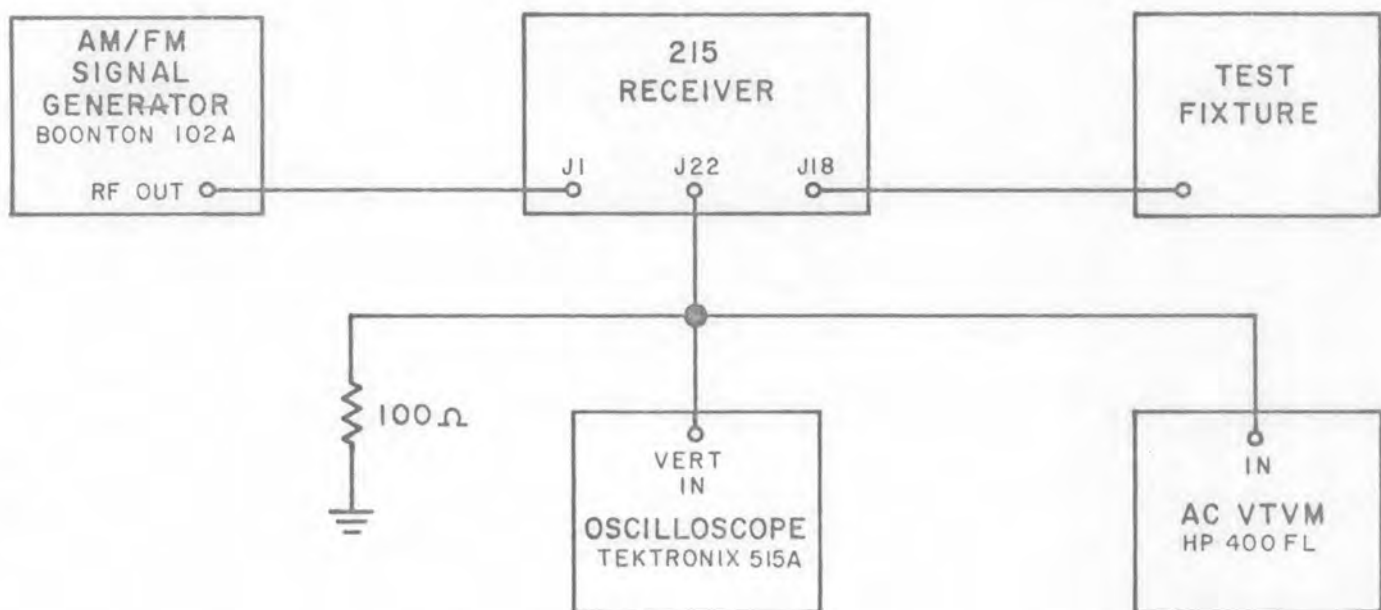

Figure 4-7. Test Setup, Remote Average AGC Check
- (1) Interconnect the equipment as shown in Figure 4-7.